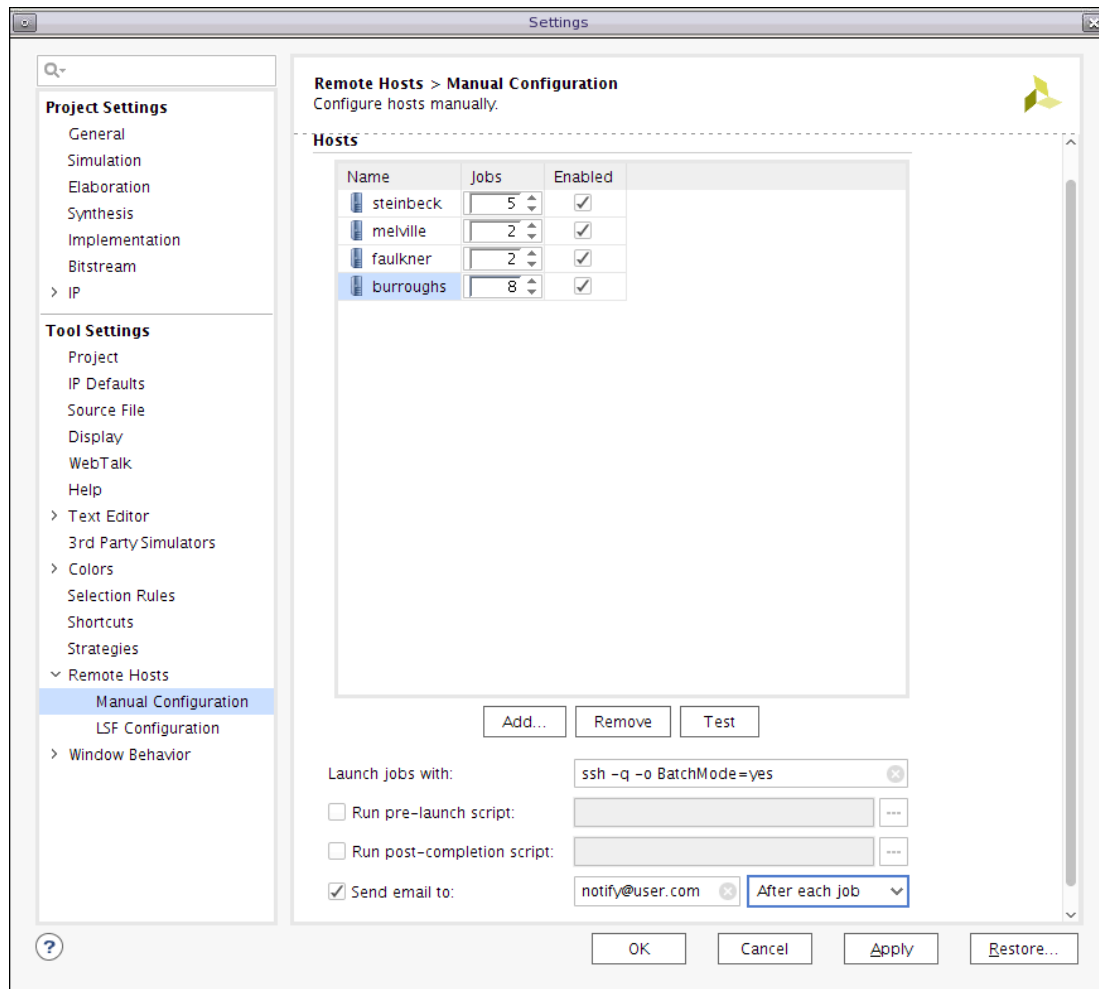

Figure A-4: Configuring Remote Hosts
2. As shown in Figure A-4, the Settings dialog box appears, with the Remote Hosts section selected. Click the **Manual Configuration** to see the list of currently defined remote Linux hosts.